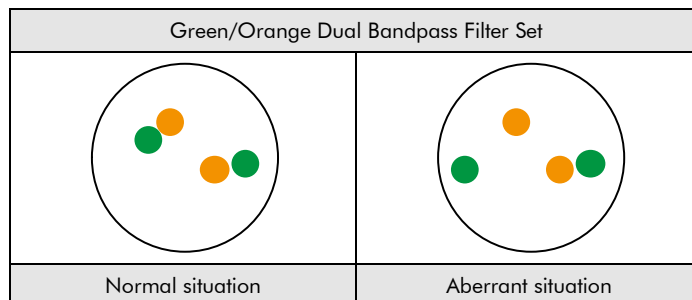

Fig. 2: Expected results in normal and aberrant nuclei
**Normal situation:** In interphases of normal cells or cells without a translocation involving the KMT2A gene region, two green/orange fusion signals appear (see Fig. 2).
**Aberrant situation:** One KMT2A gene region affected by a translocation is indicated by one separate green signal and one separate orange signal. (see Fig. 2).